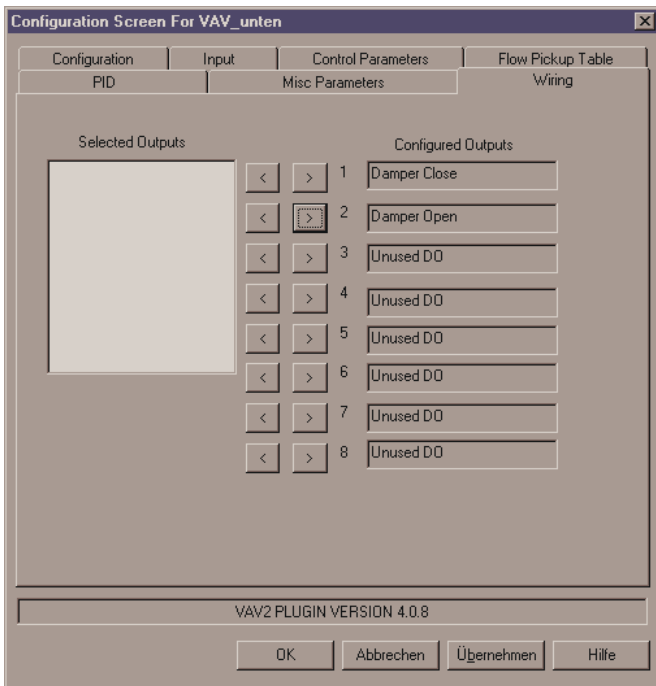

Fig. 11. Configuring the W7751H to open CCW
3. Now, configure the outputs so that the W7751H operates counterclockwise (CCW) (see Fig. 11).